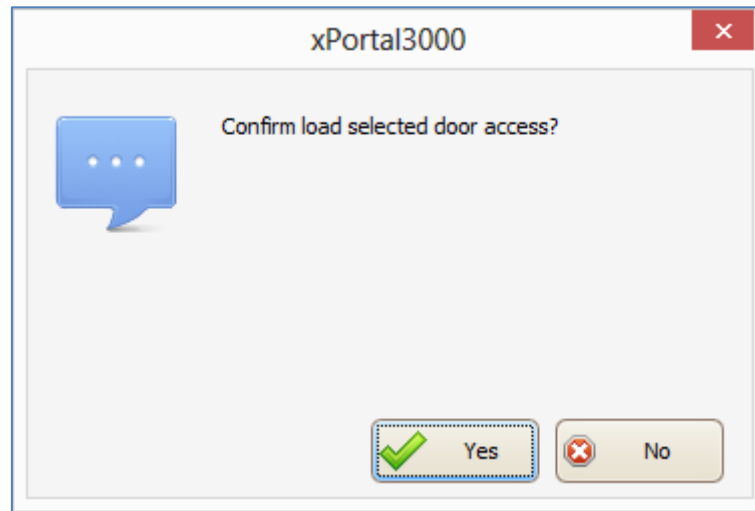

Figure 211 - Confirm Load Door Access
10. The following screen will be shown (Refer **Figure 211**).